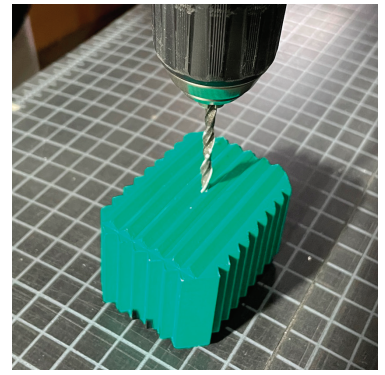

Fig.5
7. Using Zip Ties to secure Rubber Block to top Coil Spring (Fig 5)-Drill a hole in the center of the block to let the zip ties pass through.